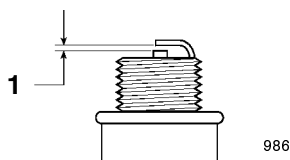

Figure 33
4. Set the gap on the new plug as shown in Figure 33.